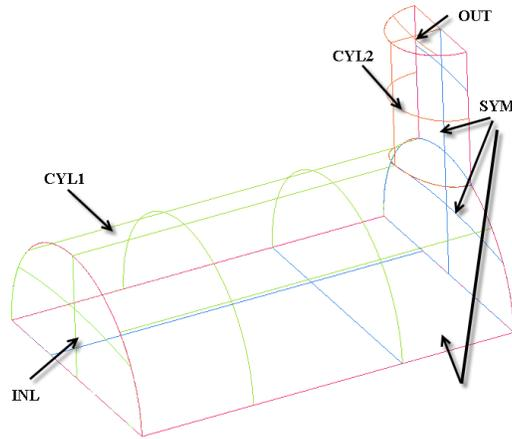

Figure 3: 3D Pipe Geometry and its Surface Parts
- 4. Similarly, create new parts for the smaller semi-cylinder (CYL2), cylinder ends (INL and OUT), and symmetry planes (SYM). See Figure 3.
The blocking strategy for the 3D pipe geometry (as shown in Figure 3) involves creating two blocks from the initial block—one each for each half cylinder, forming an L-shaped configuration. You need to create an O-Grid to improve the mesh quality.